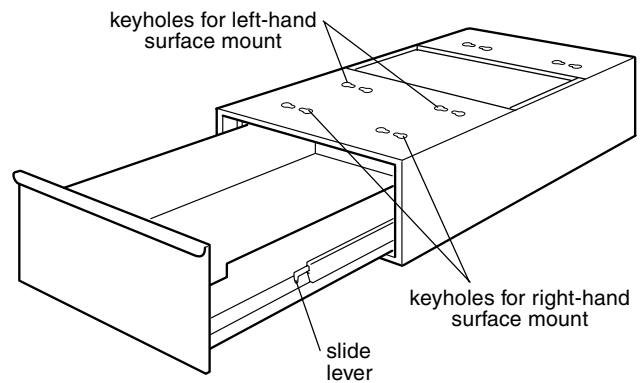

Figure 1
2. Remove first drawer in stack by fully extending drawer. Simultaneously push down on the right-hand slide lever and up on the left-hand slide lever then pull drawer away from case. (Figure 1)